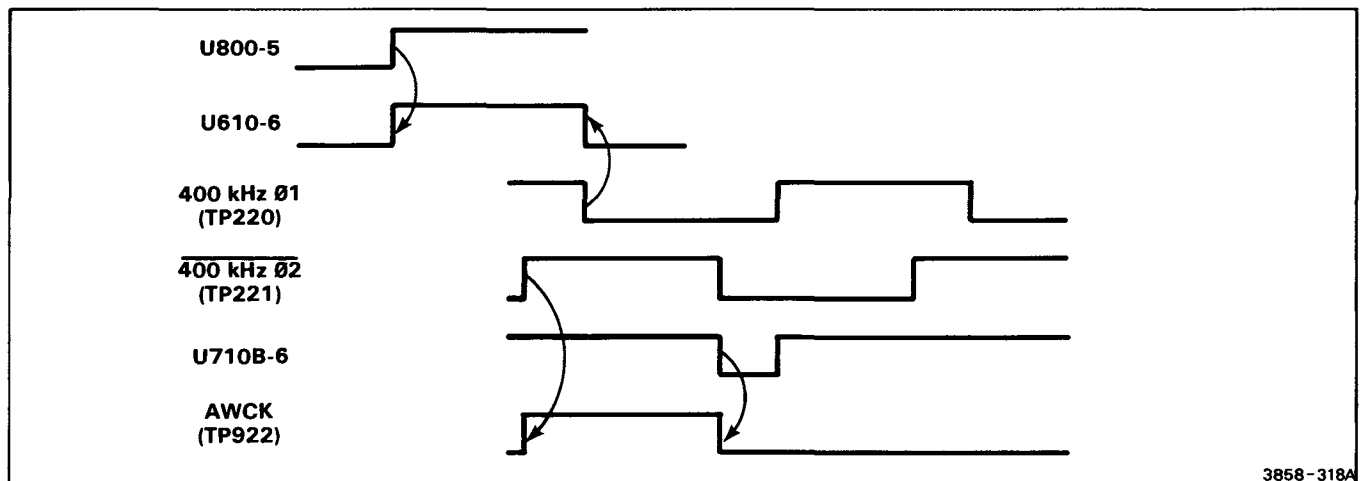

Figure 2-30. Acquire Waveform Clock (AWCK) generator.
Gates U710A and U710B, and flip-flops U610A and U610B generate the acquire waveform clock (AWCK). When the acquire waveform clock enable (AWCKE) line is high, the pin 6 output of U610A is held low, which in turn holds the pin 9 output of U610B low. The circuit is thus disabled. When the AWCKE line is pulled low (see Fig. 2-30), the pin 6 output of U610A is raised on the next sample clock edge from U800. On the next rising edge of the 400kHz(2) clock, AWCK is pulled high. AWCK remains high until both the 400kHz(2) and 400kHz(1) signals go high and reset the U610B output low. When AWCK and 400kHz(1) go high, U710A resets pin 6 of U610A low. U610A is then ready for the next sample clock from U800.